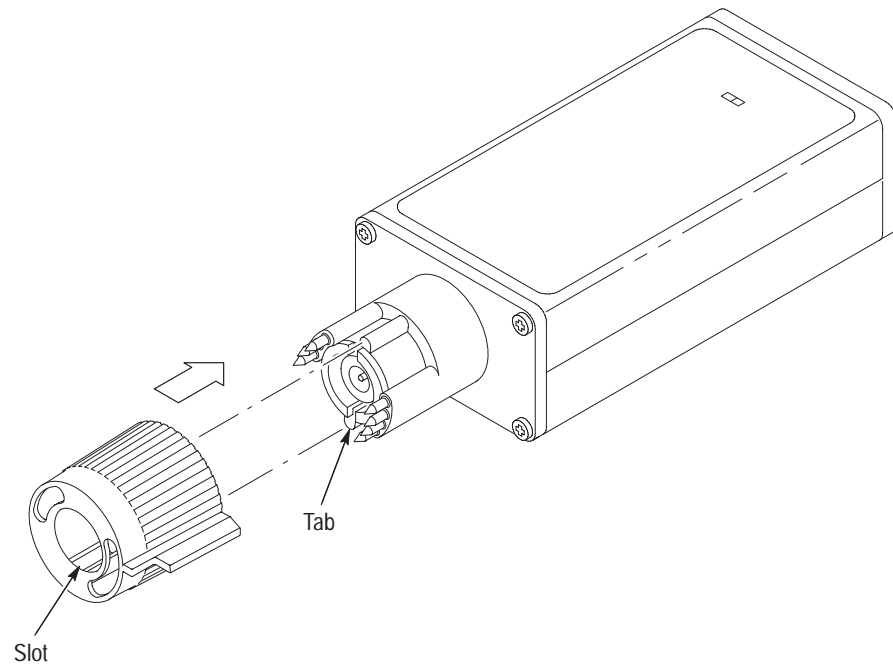

Figure 14: Replacing the TEKPROBE collar
2. To replace the collar, align the smaller group of pins with the smaller of the two holes in the interface collar and align the tabs with the slots. Gently press the two pieces together. See Figure 14.